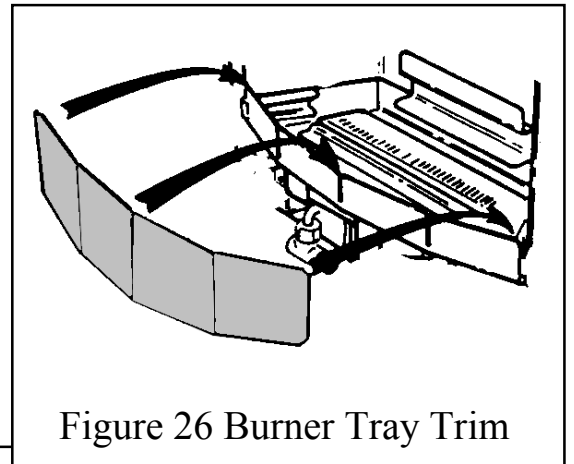

Figure 26 Burner Tray Trim
1. Fit the burner tray trim over the front rim of the burner tray. Push the trim fully down. See figure 26.